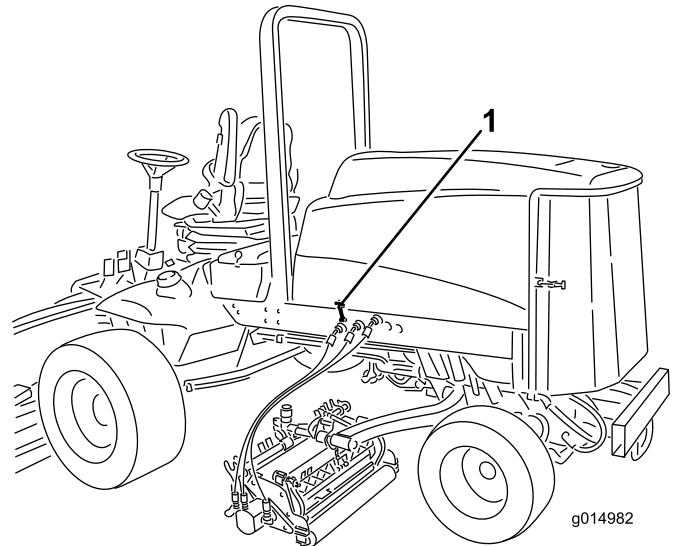

Figure 27
2. Unlock the hood latches and open the hood (Figure 27).